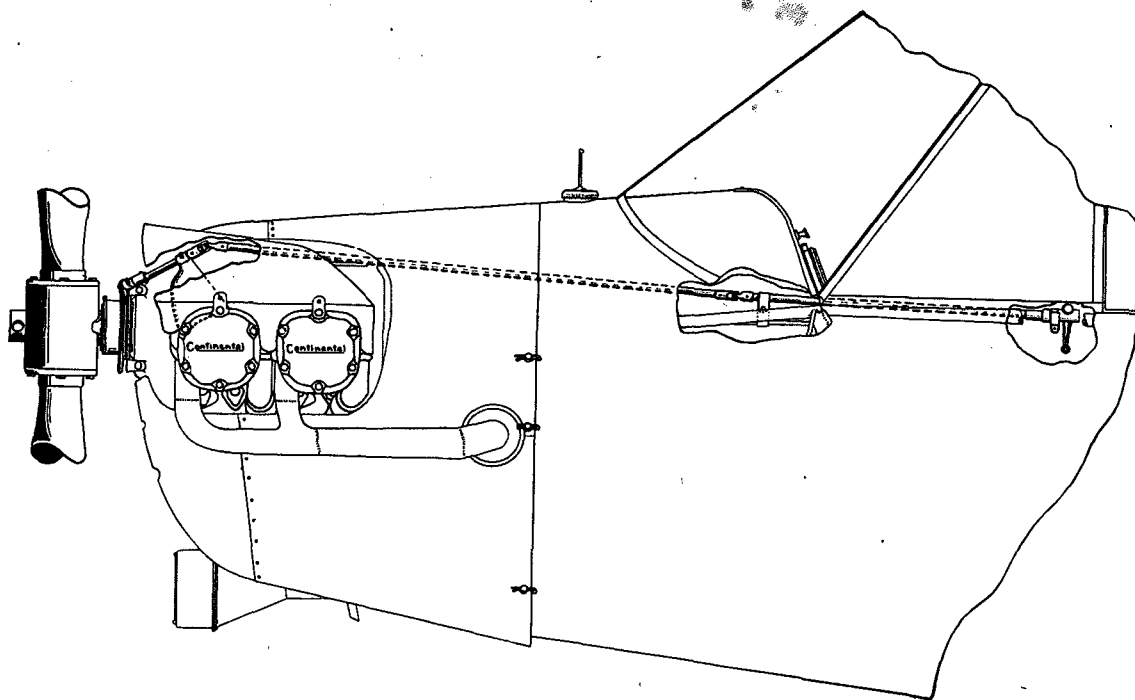

Figure 2—Installation of Model R002 Propeller
c. CONTROL ASSEMBLY.—The control consists of a hand crank, 90-degree drive torque shafts, universals, brackets, bearings, and pinion gear. The hand crank is mounted near the throttle for convenience. When the hand crank is turned, motion is transmitted to the pinion gear by the torque shafts and universal joints. The torque shaft is supported by a bearing aft of the fire wall, a bearing over the left front cylinder of the engine, and by a bearing at the pinion gear. (See figure 2.)